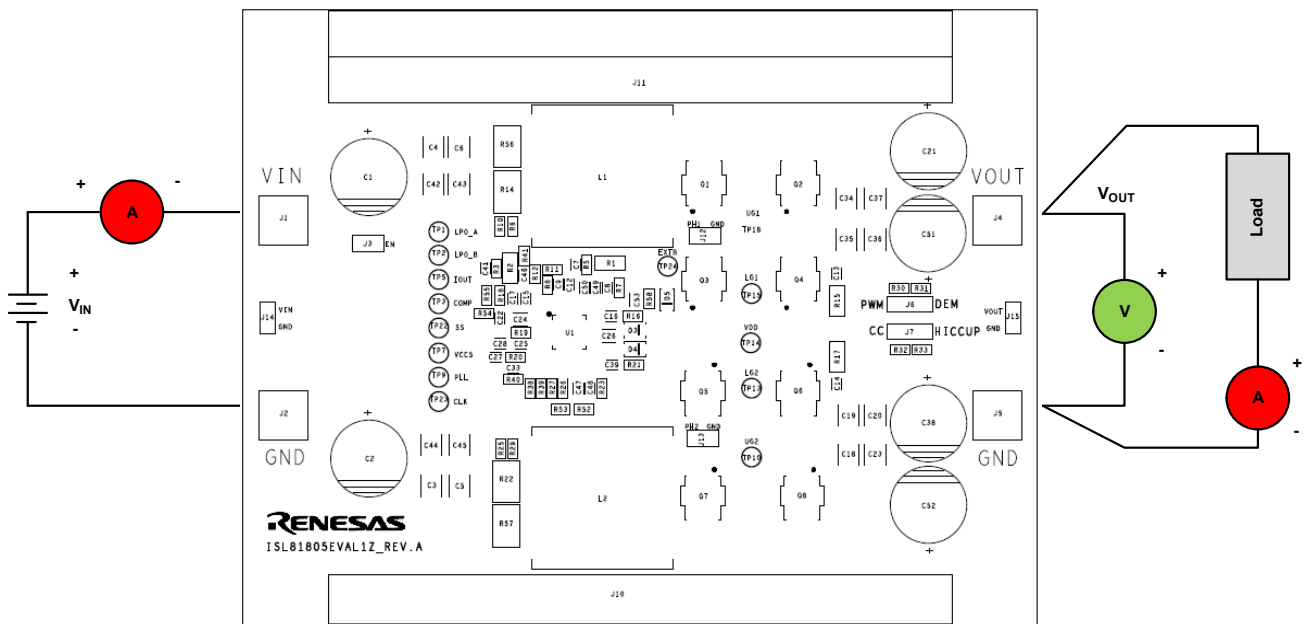

Figure 3. Proper Test Setup
As shown in Figure 3, 9V to 36V V_{IN} is supplied to J1 (+) and J2 (-). The regulated 48V output on J4 (+) and J5 (-) can supply up to 5A to the load. Because of the high-power efficiency, the evaluation board can run at 5A continuously without airflow at ambient room temperature conditions.
1. Jumper J6 provides the option to select PWM or DEM. Jumper J7 provides the option to select a constant current limit or HICCUP. See Table 2 for the operating options. Ensure that the circuit is correctly connected to the supply and electronic loads before applying any power. See Figure 3 for the proper setup.